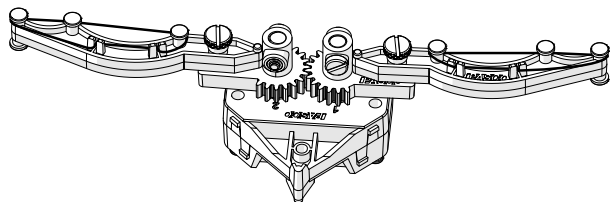

Figure 1. Attaching the gripper fingers to the Motor Mount.
- Slide the gripper gears onto the end of the spline shaft adapters. The gripper fingers should be in the position AND orientation shown in Figure 1.
- Insert an anti-backlash thumbscrew into the non-threaded hole on the shaft of each gripper gear, as shown in Figure 1. Tighten the screws to secure the gears to the shaft spline adapters.